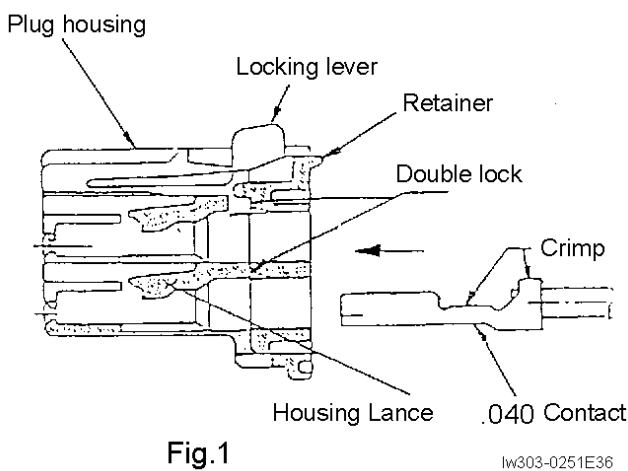

Fig.1
1. Before loading contacts into the housing, verify that there are no incomplete crimps and then place the contact with the locking lever facing upward as shown in Fig.1 and insert the contact straight until it stops at the end of housing cavity. If the contact is not easily seated in housing, do not force it, but make sure that it is going in the right direction. Terminals forced in backwards can accidentally scrape the housing lance off.